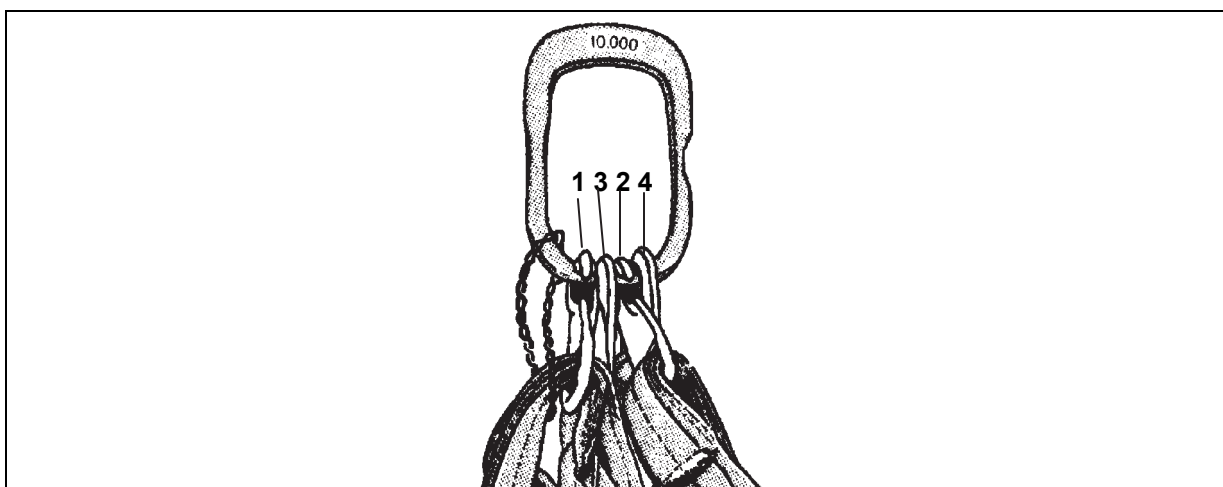

Figure 7-7. Legs Hooked in Sequence
- Position one person on top of the load. Connect the legs to the apex fitting in the following sequence: 1, 3, 2, and 4, or 1, 3, 4, and 2 to provide equal lift on all legs (figure 7-7). Hooks should be alternated on the apex fitting.